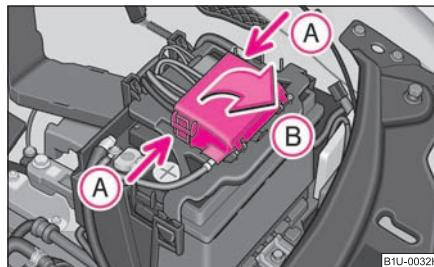

Fig. 170 Battery cover in the engine compartment
- Press together the interlocks of the fuse cover simultaneously in direction of arrow **A** ⇒ fig. 170 and fold down the cover in direction of arrow **B**.